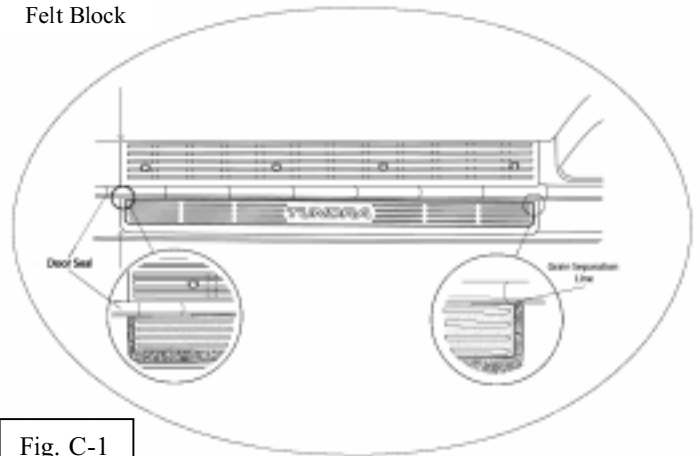

Fig. C-1
2. Hold applique taut from each end and carefully work under door seal. Align front edge of applique with front of scuff plate. Align the outside border (grain separation line) of the applique visually directly below outer edge of door seal. (Fig.C-1)